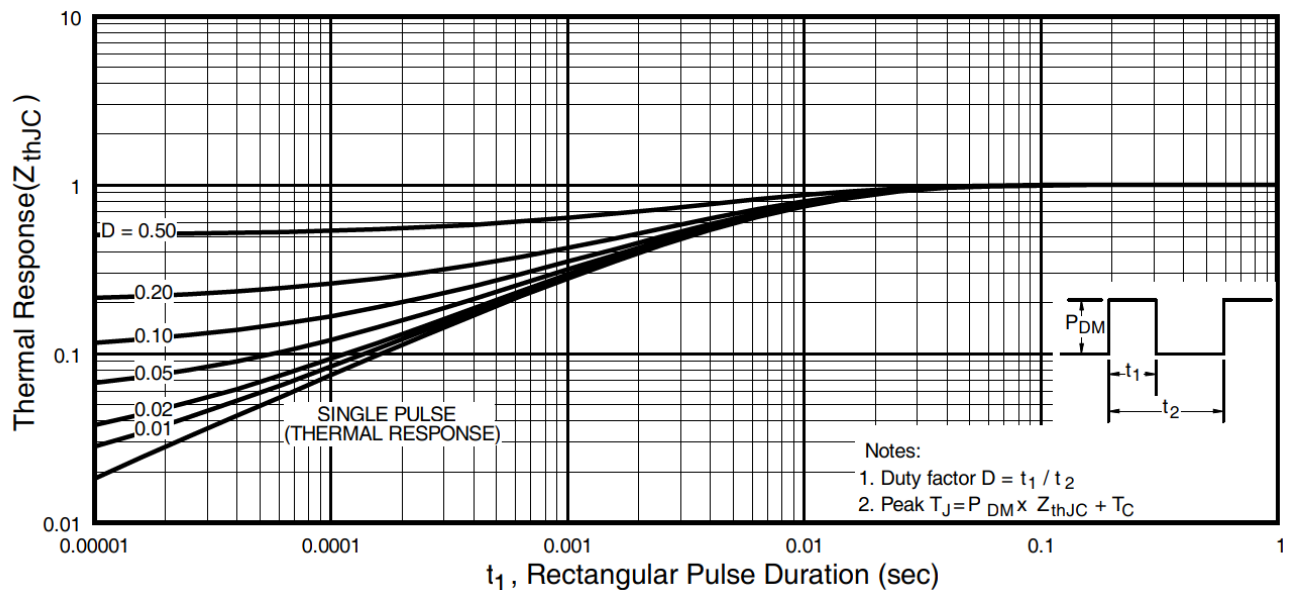

Fig 11. Maximum Effective Transient Thermal Impedance, Junction-to-Case
- ① Repetitive rating; pulse width limited by max. junction temperature. (See fig. 11).
- ② Starting $T_J = 25^\circ\text{C}$, $L = 4.2mH$, $R_G = 25\Omega$, $I_{AS} = 11A$
- ③ Pulse width $\leq 400\mu s$; duty cycle $\leq 2\%$.
- ④ This is only applied to -TO-220AB package.
- ⑤ This is applied to D2 Pak, when mounted on 1" square PCB (FR-4 or G-10 Material). For recommended footprint and soldering techniques refer to application note# AN-994.
- ⑥ $I_{SD} \leq 11A$, $di/dt \leq 344A/\mu s$, $V_{DD} \leq V_{(BR)DSS}$, $T_J \leq 175^\circ\text{C}$.